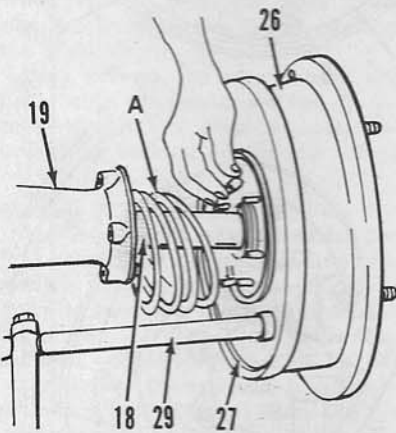

Fig. F42—Wheel axle shaft and brake assembly. Shims (A) control axle shaft end play.
To adjust bearings on either type of shaft, remove shims (A), shown in Fig. F42 or F44, from between one brake back plate (27) and one axle housing (19), until both shafts rotate in the same direction when one shaft is rotated. Then add shims (A) until the axle shafts rotate in opposite directions. This procedure will provide a recommended 0.002-0.008 clearance between inner ends of the axle shafts. Zero clearance may cause the inner ends of the axle shafts to weld together. Excessive clearance will result in damaged axle shaft oil seals. To add shims, it will be necessary to remove the axle shaft as outlined in paragraph 95.